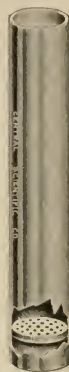

FIG. 16.—Common soil tube, 2" x 12" with perforated bottom, useful in many exercises.
2. Fill two soil tubes (Fig. 16) with clay loam, packing them alike. Set them in a jar of water until saturated. Loosen the surface of one with a kitchen fork; smooth the surface of the other with the bowl of a wet spoon to avoid the free entrance of air. Then set the tubes of soil so as to drain into beaker glasses. Compare the rates of drainage of free water from the two tubes as a result of the difference in treatment of the surfaces.
1. Select eight soil cylinders (Fig. 16) and place a circular piece of filter paper in the bottom of each. Number and weigh each cylinder carefully.